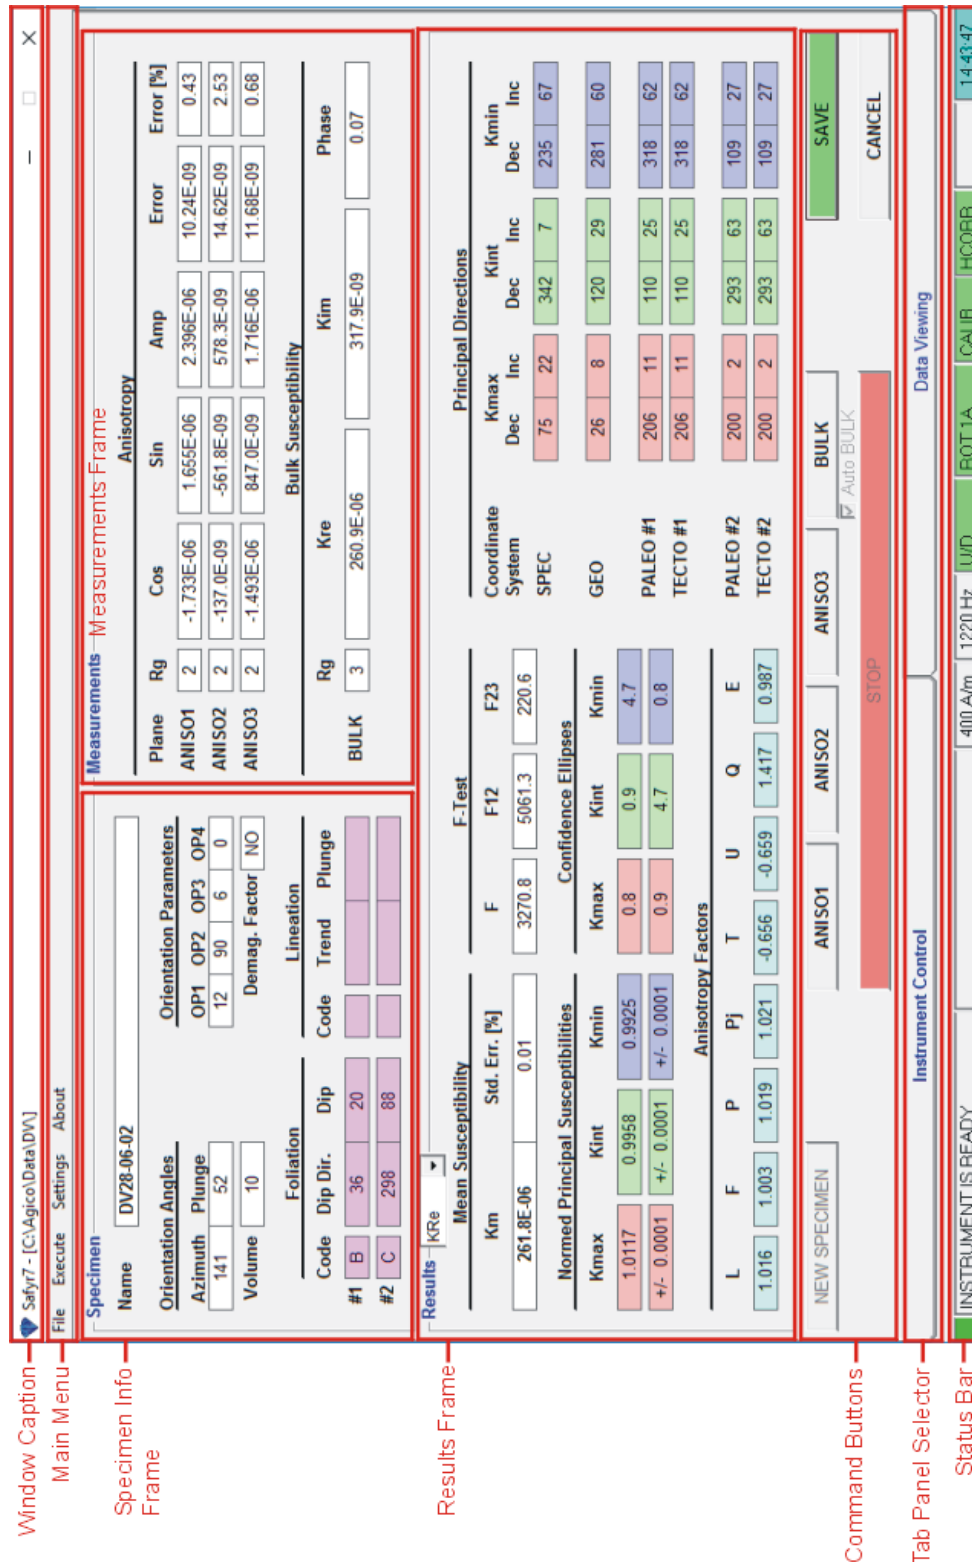

Figure 19: Instrument Control tab-panel controlling the Automatic Anisotropy Measurement using 1-Axis Rotator.
5.2.2.2 1-Axis Rotator The **Safyr7** main window for the Automatic Anisotropy Measurement with 1-Axis Rotator is shown in the Figure 19. The measuring routine is very easy and consists of the following steps:
The measured values are presented in the **Measurements Frame** (Figure 19):